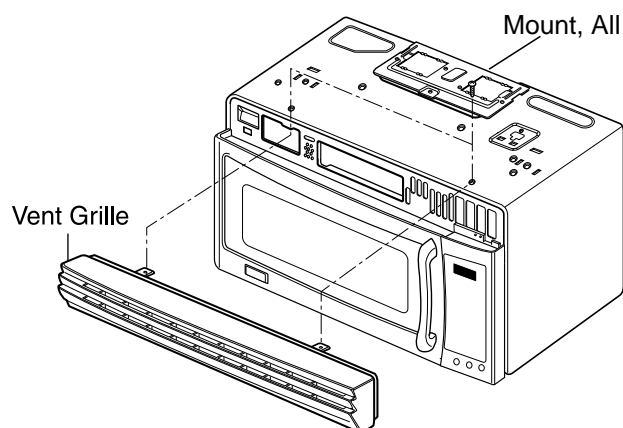
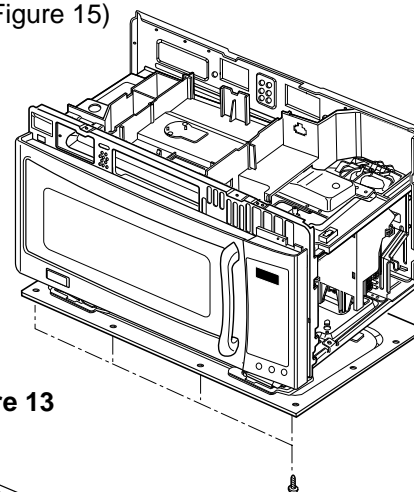
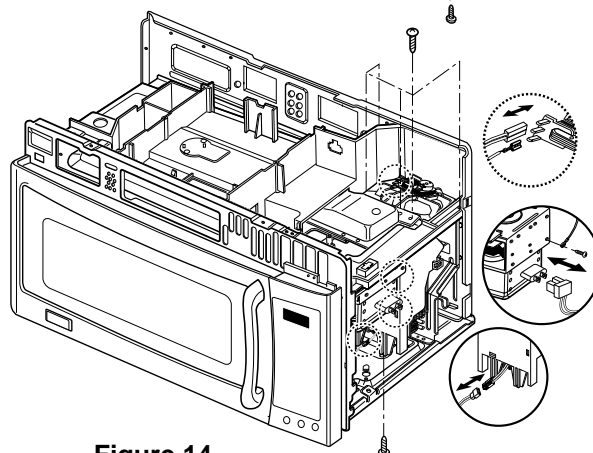
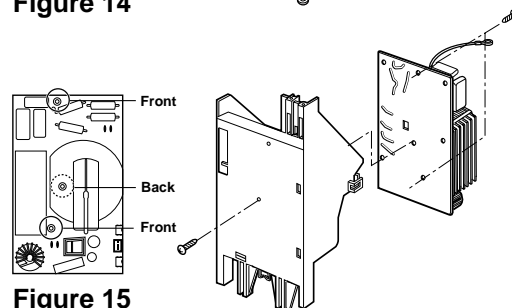

Figure 11
Figure 13
Figure 14
Figure 15
(Figures 11 Through 12)
- (1) Remove the vent grille by loosening two screws. (Figure 11)
- (2) Remove the outcase. See page 7-6.
- (3) Remove four tap tite screws securing the magnetron to the wave guide.
- (4) Remove the magnetron VERY CAREFULLY.
(Figures 13 Through 15)
- (3) Remove the base plate by loosening four screws. (Figure 13)
- (4) Disconnect two leadwire of the fan motor assembly.
- (5) Disconnect the leadwire of the inverter PCB and H.V. cable of the magnetron.
- (6) Remove the earth wire screw.
- (7) Remove three screws securing to duct assembly and two screws securing to fan guide. (Figure 14)
- (8) Remove the screw securing to inverter module assembly.
- (9) Push the inverter guide hook and out the inverter module assembly lifting up duct assembly.
- (10) Open the upper inverter guide.
- (11) Remove three screws securing to PCB and pull out PCB. (Figure 15)